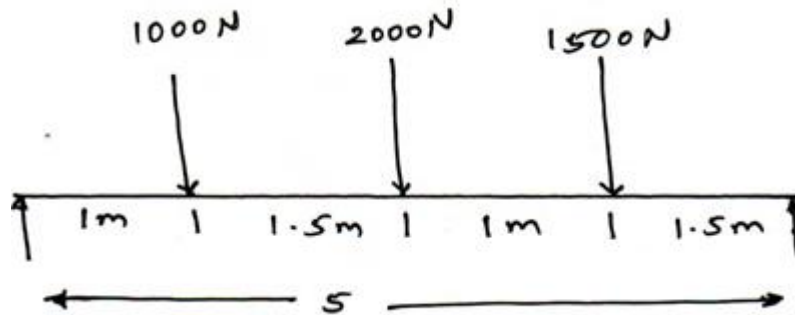

Figure.6
10. Find the lower natural frequency of vibration for the system shown in fig.6 by Rayleigh's method. $E = 2 \times 10^{11} \text{ N/m}^2$ $I = 4 \times 10^{-7} \text{ m}^4$